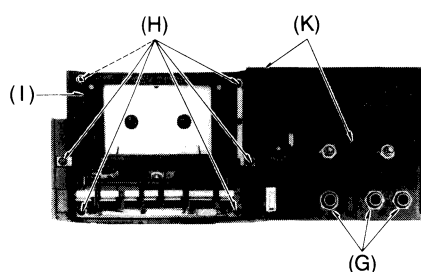
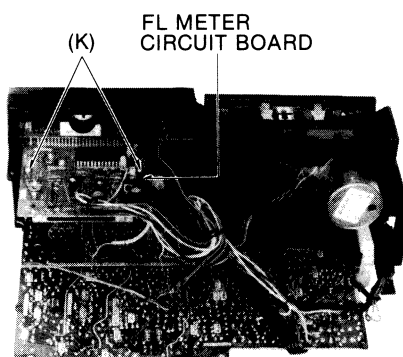

Fig. 4
Fig. 5
B Head azimuth adjustment Condition: • Playback mode • Normal tape mode Equipment: • VTVM • Oscilloscope • Test tape (azimuth) ... QZZCFM	L-ch/R-ch output balance adjustment 1 Make connections as shown in fig. 4.  Fig. 4 2 Playback the 8kHz signal from the test tape (QZZCFM). Adjust screw (B) in fig. 5 for maximum output L-ch and R-ch levels. When the output levels of L-ch and R-ch are not at maximum at the same time, readjust as follows. 3 Turn the screw shown in fig. 5 to find angles A and C (points where peak output levels for left and right channels are obtained). Then, locate the angle B between angles A and C, i.e., a point where L-ch and R-ch output levels come together at maximum. (Refer to figs. 5 and 6.)  Fig. 5  Fig. 6 L-ch/R-ch phase adjustment 4 Make connections as shown in fig. 7. 5 Playback the 8kHz signal from the test tape (QZZCFM). Adjust screw (B) shown in fig. 5 so that pointers of the two VTVMs swing to maximum and a waveform as illustrated in fig. 8 is obtained on the oscilloscope.  Fig. 7  Fig. 8
Ⓔ Playback gain Condition: • Playback mode • Normal tape mode Equipment • VTVM • Oscilloscope • Test tape... QZZCFM	1. Test equipment connection is shown in fig. 4. 2. Playback standard recording level portion on test tape (QZZCFM 315Hz), and using VTVM measure the output level at LINE OUT. 3. Make measurement for both channels. Standard value: 0.4V ± 2dB [around 0.42V: at test points TP5 (L-CH) and TP6 (R-CH)] Adjustment 1. If measured value is not within standard, adjust VR1 (L-CH), VR2 (R-CH) (See fig. 2 on page 4). 2. After adjustment, check "Playback frequency response" again.